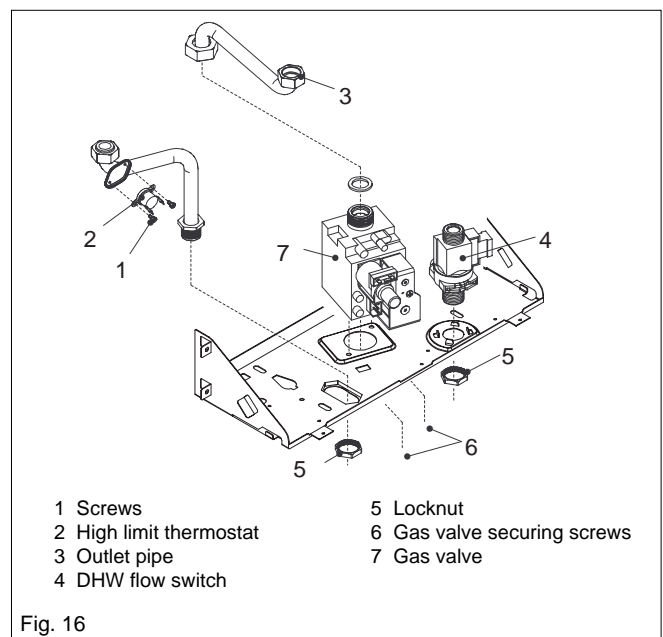

Fig. 16
6.7 FLOW SWITCH (see fig. 16)
6.8 GAS VALVE (see fig. 16)